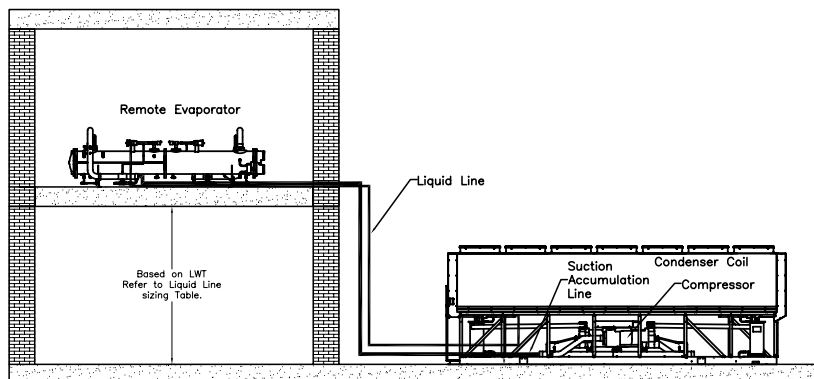

Figure 26 Remote Evaporator Installations
The system may be configured in any of the four arrangements shown in Figure 26. The configurations and their associated elevations, along with the total distance between the remote evaporator and the compressor/condenser section, play a critical role in determining suction and liquid line sizes. This will also affect field refrigerant and oil charges. Consequently, there are physical limits which must not be violated if the system is to operate as designed. Please note the following requirements for field installation:
7. Figure 26, drawing 1 depicts an installation where the remote evaporator elevation is the same as that of the outdoor condensing unit. The suction and liquid lines are horizontal or down flowing only.
8. Figure 26, drawing 2 shows a variation to drawing 1. The remote evaporator and outdoor condensing unit are at the same elevation but interconnecting piping may be installed up to 15 feet above the base elevation. Refer to Table 13 to determine the required length of the suction accumulator line. A full size suction accumulator is required at the evaporator and 50% of the value is required at the condensing unit.
10. For installations where the remote evaporator is at a lower elevation than the outdoor condensing unit as shown in Figure 26, drawing 3, the elevation difference is not to exceed 100 feet. An inverted liquid line trap at the condensing unit is required to prevent unwanted free cooling. The apex of the liquid line trap should be at a height above the condenser coils. A suction accumulator must be installed at the evaporator. Refer to Table 13 for sizing.
11. When the elevation of the remote evaporator exceeds that of the outdoor condensing unit as shown in Figure 26, drawing 4, the elevation difference is determined by Table 11. The suction accumulator line must be installed according to Table 13. It is very important, for proper control and operation of the chiller, that the elevation requirements given in Table 11 are **not** exceeded. It should also be noted that in this configuration the suction accumulator is installed at the condensing section.